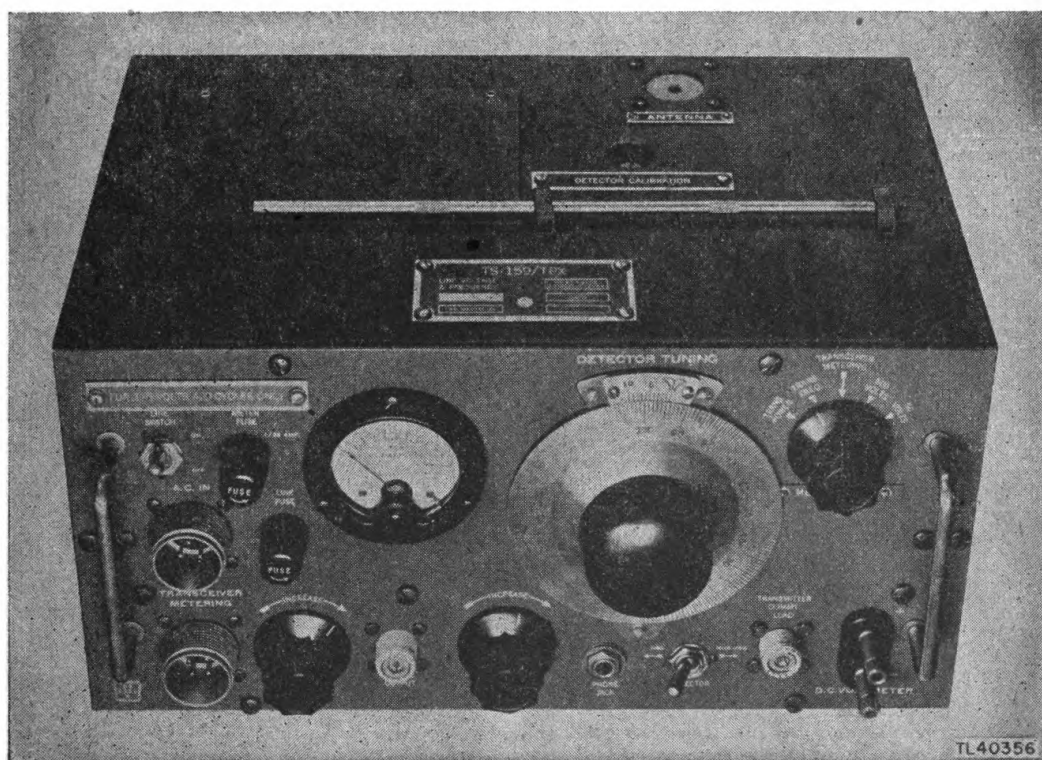

Figure 8. Test Set TS-159/TPX.
10. TEST SET TS-159/TPX (fig. 8).